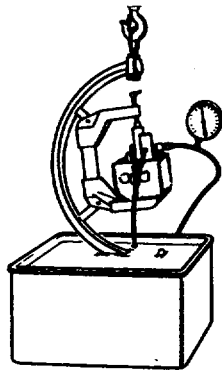

FIGURE 4-20. Hydrostatic Tester.
- (24) Pressure test cylinder head.
- (a) Attach cylinder head to hydrostatic tester with water test adapter plate FIG. 4-20.